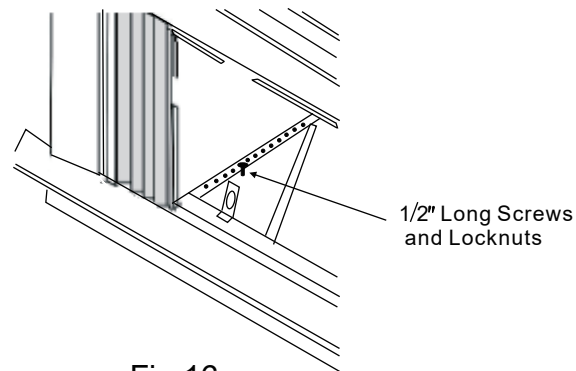

Fig. 16
3. Install support brackets (with sill angle brackets attached) to correct hole in bottom of cabinet as shown in Fig. 16.